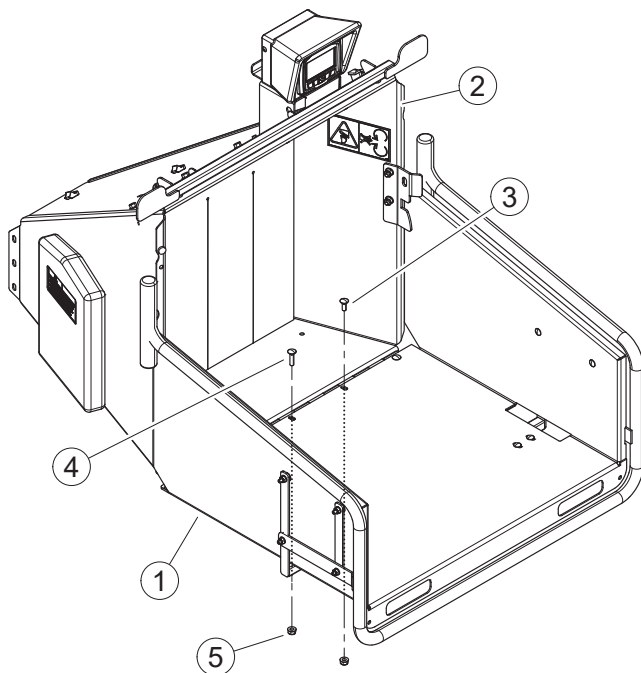

Figure 2.5, Attaching the Extension Tray
1. Tilt the extension tray (1) up, so the bottom of the tray is facing outward. Slide the extension tray between the extension hinge and chipper chute lips (2).
3. Insert four $\frac{3}{8}$ " $\times$ 1" carriage bolts (3) and one $\frac{3}{8}$ " $\times$ 1-1/2" carriage bolt (4) (included in owner's kit) through the extension tray and hinge. Secure the bolts with nylock nuts (5) from the bottom (Figure 2.5).